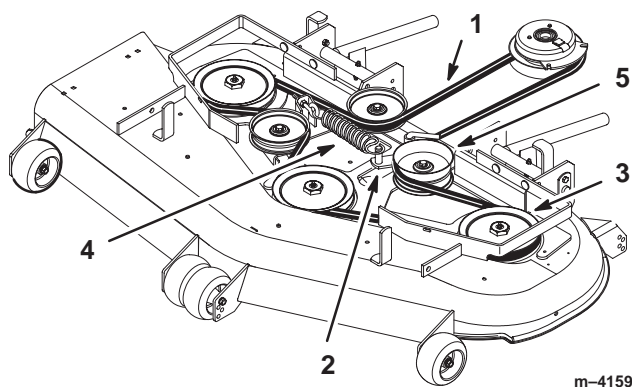

Figure 57
4. Remove the belt. Start at the outside pulley and rotate the belt off (Fig. 57).
7. Install the idler pulley and route the belt onto the other pulleys (Fig. 57).